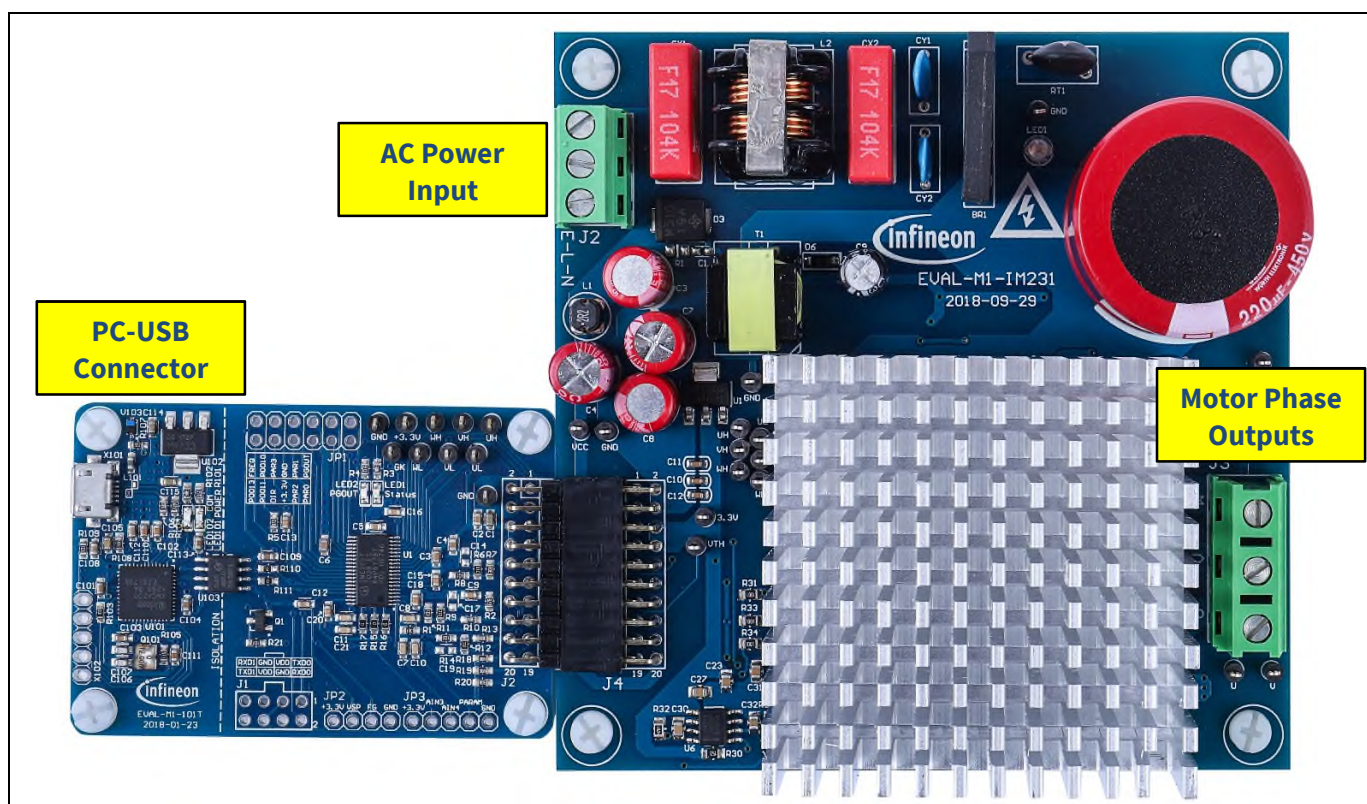

Figure 4 System connection example using EVAL-M1-101T and EVAL-M1-IM231-A
3. Connect EVAL-M1-101T's M1 20-pin interface connector (J2) to power board (For example EVAL-M1-IM231-A, see Figure 4).